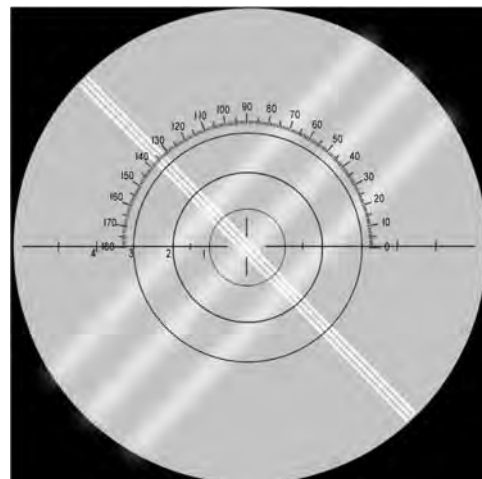

Figure IU-02 Sphere Power Focused
3. If only the Sphere Lines or only the Cylinder Lines can be focused sharply, the lens has cylinder power. Refer to Figures IU-02 and IU-03.
4. By turning the Power Wheel, you will be able to find a position at which the Sphere Lines are in focus. Refer to Figure IU-02.
2. Rotate the Axis Wheel until the Sphere Lines are in focus and unbroken. Refer to Figure IU-02.
2. Rotate the Axis Wheel until the sphere lines are in focus and unbroken. Refer to Figure IU-02.